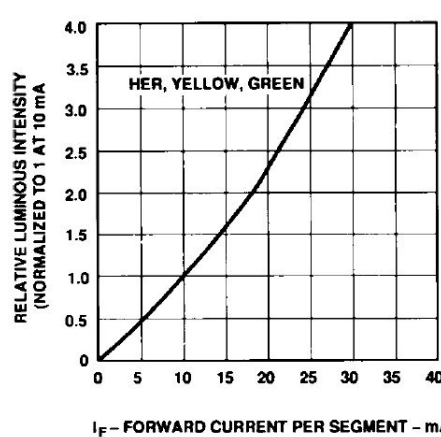

Figure 6. Relative Luminous Intensity vs. DC Forward Current.
3. See Figure 6 to establish pulsed conditions.